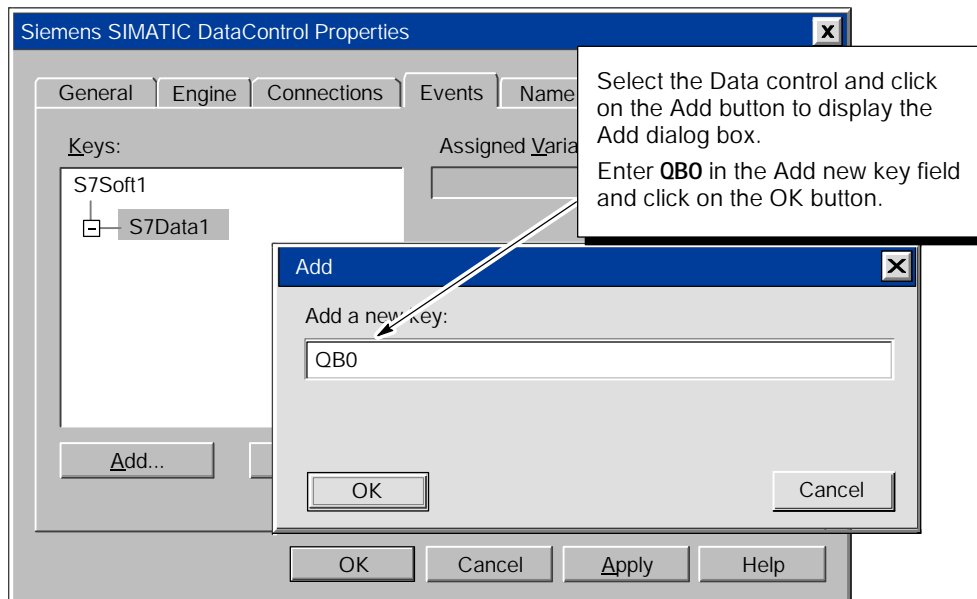

Figure 1-15 Adding an Event Key to the Data Control
2. Click on the Add button to add a new event key. See Figure 1-15. In the Add dialog box, enter **QBO** in the Add a new key field.